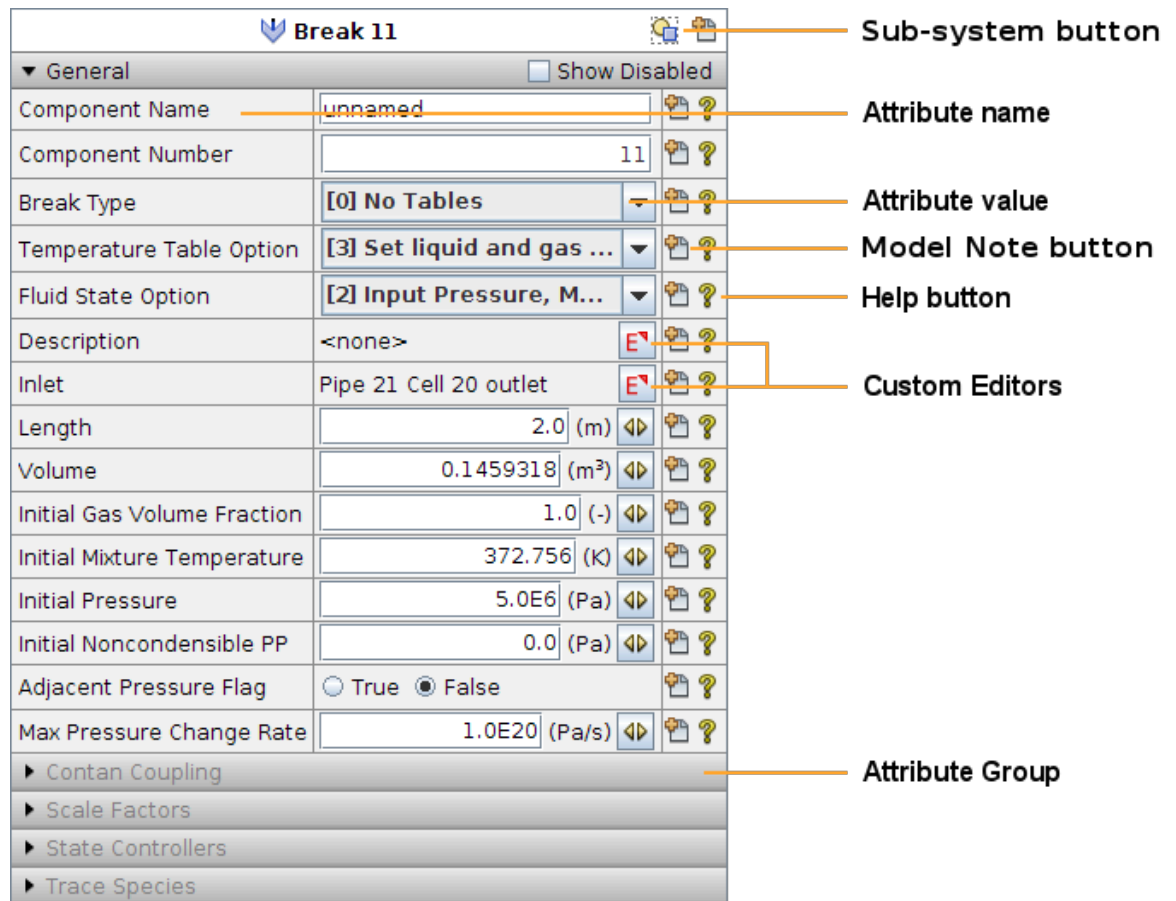

Figure 2.5. Example Property View
The Main Property View, shown in Figure 2.5, “Example Property View”, provides the central point for viewing and editing properties of model components, Display Beans, etc.. It displays the properties of the current selection from either the Navigator or a 2D View. Changes to these
properties will immediately be reflected in all other open views (2D, ASCII, Property, etc.). An example of a Property View is shown in Figure 2.5, “Example Property View”.
Show Disabled Check Box - This check box (shown in Figure 2.5, “Example Property View”) is used to activate the display of disabled properties in each of the attribute groups. The **Show Disabled** check box always appears in the title area for the **General** attribute group.
- **Properties** - This item opens a separate property view for the selected object. This separate property view is functionally equivalent to the main property view shown in Figure 2.5, “Example Property View”.